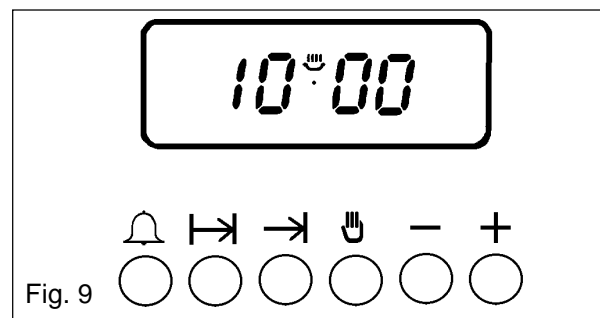

Fig. 9
- Ensure the electricity supply is switched ON and that the correct time of day is displayed, e.g. 10.00am as Fig. 9.